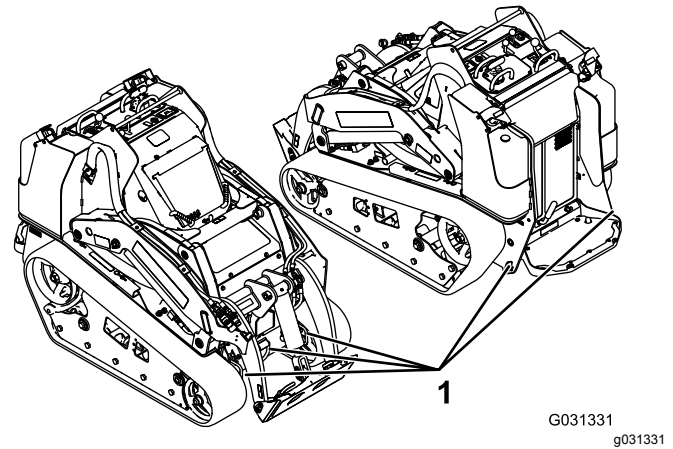

Figure 29
8. Use the metal tie-down loops on the machine to securely fasten the machine to the trailer or truck with straps, chains, cable, or ropes (Figure 29). Refer to local regulations for tie-down requirements.
You can lift the machine using the tie-down/lift loops as lift points; refer to Figure 29.